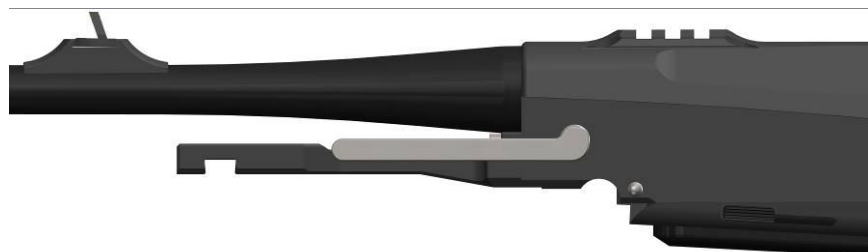

Figure 9
(7) Lock barrel fastening. (Figure 9)
THE CLAMPING LEVER MUST BE HORIZONTAL TO THE AXIS OF THE BORE (FIGURE 9).
(8) Close barrel fastening. (Figure 9)
THE CLAMPING LEVER MUST STAND HORIZONTAL TO THE AXIS OF THE BORE (Figure 9).